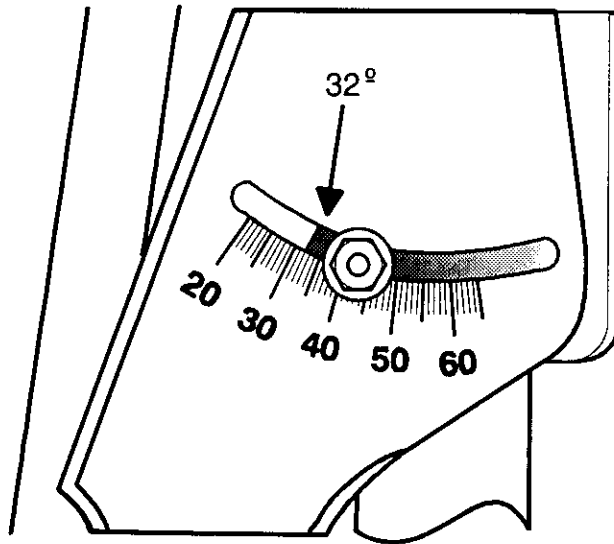

Figure 90, Elevation Adjustment
- When the elevation indicator aligns with the correct mark on the elevation indicator, tighten the two nuts securing the elevation movement of the dish (see figure 90).